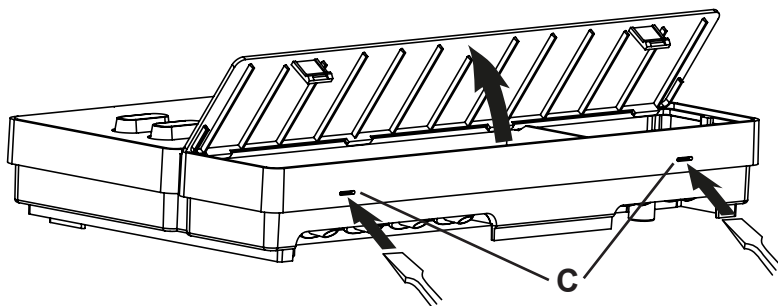

Fig.3 Removing the cover from the housing
2. Press the clip locks **C** in lightly using a screwdriver and remove the cover from the housing (see **Fig.3**).